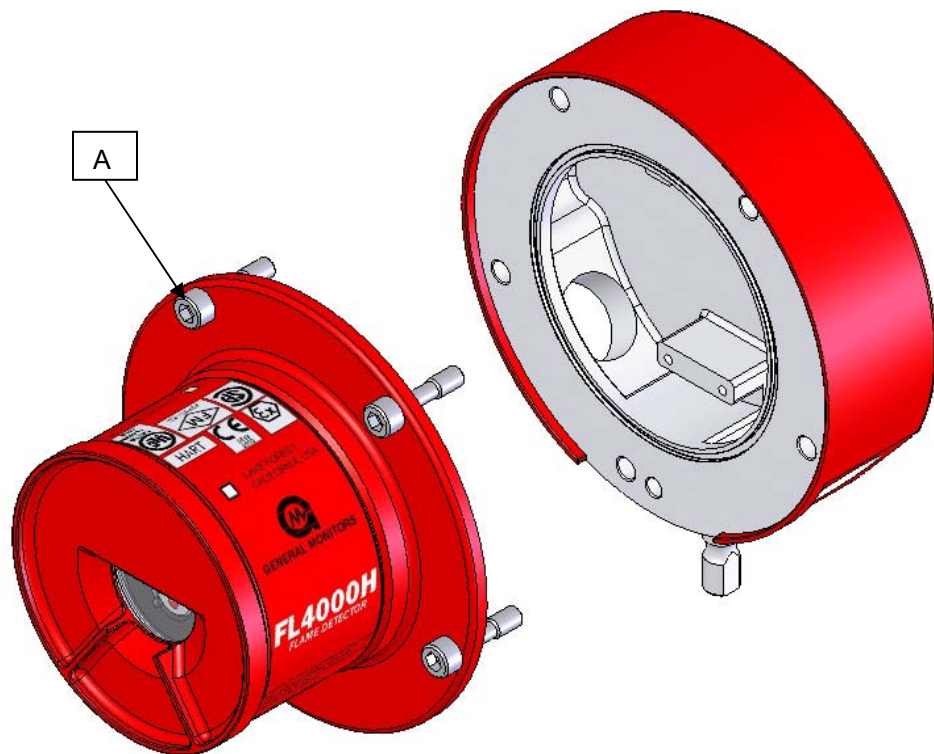

Figure 15: FL4000H Housing
The following procedure should be used in conjunction with Figure 15:
All wire connections are made through the 3/4 inch (1.9 cm) NPT openings in the Junction Module (C, Figure 15) to the Terminal Block. The Terminal Block is located on the Junction Module Assembly (F) and accepts 14 AWG (2.08 mm2) to 22 AWG (0.33 mm2) stranded or solid-core wire. Each wire should be stripped as shown in Figure 18.